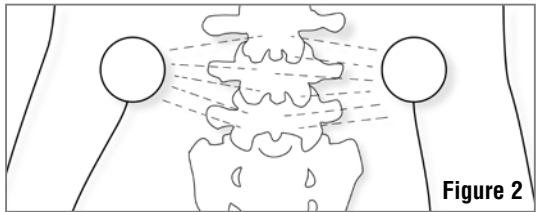

Figure 2
- **Note:** To ensure electrode placement and adhesion, you may use one of the provided electrode retainer patches. Place one electrode two to three inches to the left of the area of the surgery and a second electrode two to three inches to the right of the area of the surgery so that the electrodes are four to six inches apart. See Figure 2. Depending on the patient's ability to move after surgery, it may be helpful for the patient to ask another person to assist them